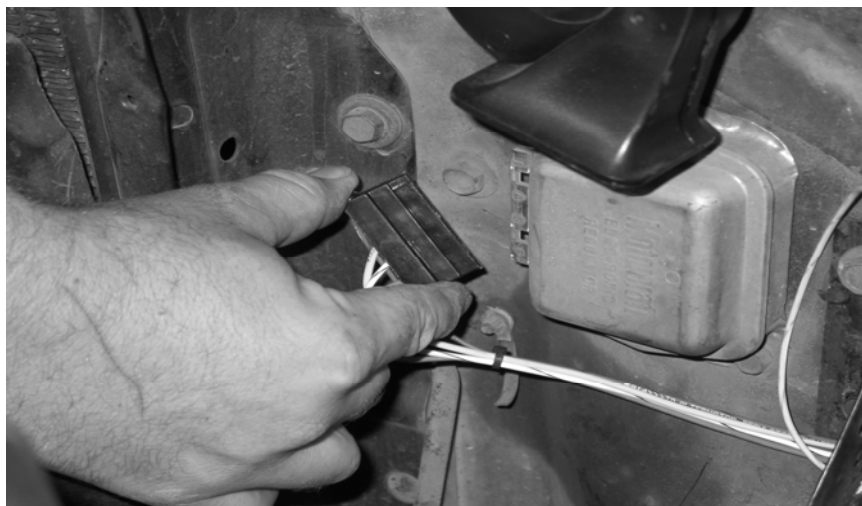

Figure 7-3 Voltage Regulator Connection '67-'77 Models
- 7.1.3** Locate the Voltage Regulator Connector in the PASSENGER SIDE SECTION and plug it into the Voltage Regulator, which is on the passenger's side engine compartment on the core support. **Note: It is critical to have the Voltage Regulator's housing grounded for proper operation. See Figure 7-3.**